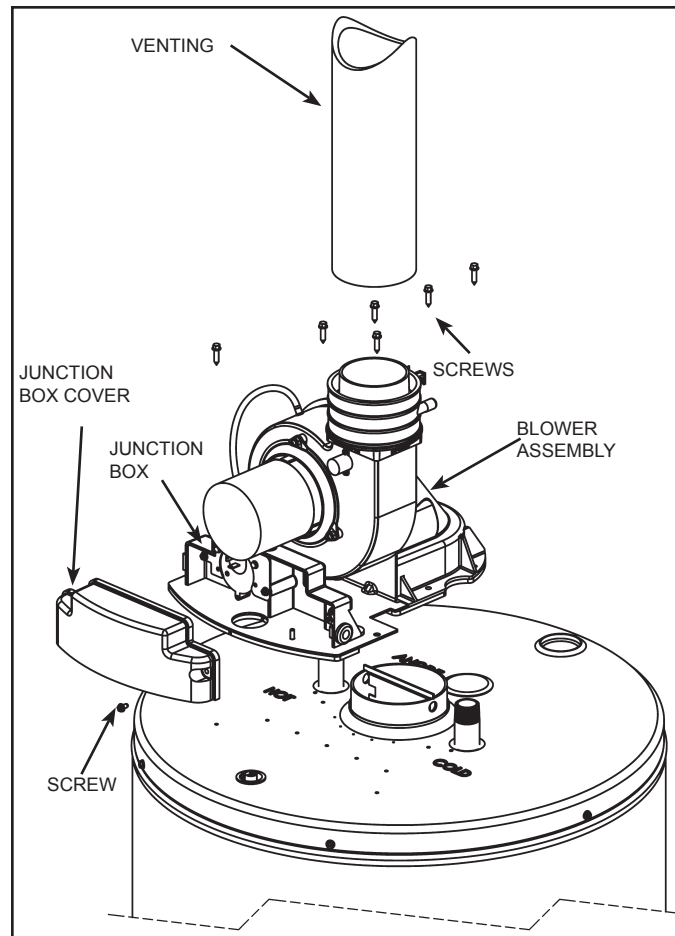

Figure 28. Removing the Blower
4. Use a 5/16" nut-driver to loosen the screw on the upper gear clamp of the rubber coupling adapter connecting the venting to the blower. Slowly pull the vent from the adapter. See **Figure 28** (page 24).
5. Use a 1/4" nut-driver or 1/4" socket & ratchet to loosen the screw on the junction box. Remove and retain the screw and junction box cover. Disconnect the power and ground connectors. See **Figure 28** (page 24).
6. Use a 1/4" nut-driver or 1/4" socket & ratchet to loosen, remove and retain the 6 hex head screws so the blower assembly can be removed. Remove the blower while carefully passing the power and ground connectors through the junction box opening. See **Figure 28** (page 24).
3. Align the screw holes on the blower assembly with those on the top of the heater. Using the six screws removed in step 6 above, install the blower assembly and tighten with 1/4" nut-driver or 1/4" socket & ratchet. See **Figure 28** (page 24).
Note: This power vent heater will accept a 2" or 3" rubber outlet coupling, depending on the size of the water heater. This coupling, mounted in the vertical position, accepts the vent piping and is attached as shown in **Figure 28**. See the **Manual** to determine vent pipe sizing for your application. The blower assembly may be rotated 90 degrees clockwise or counter-clockwise to allow horizontal venting in areas having restricted space above the water heater. See **Rotating The Blower** (page 24).
This power vent heater can accept 2" or 3" rubber outlet coupling, depending on the capacity of the water heater. This coupling, mounted in the vertical position, accepts the vent piping and is attached as shown in **Figure 28**.